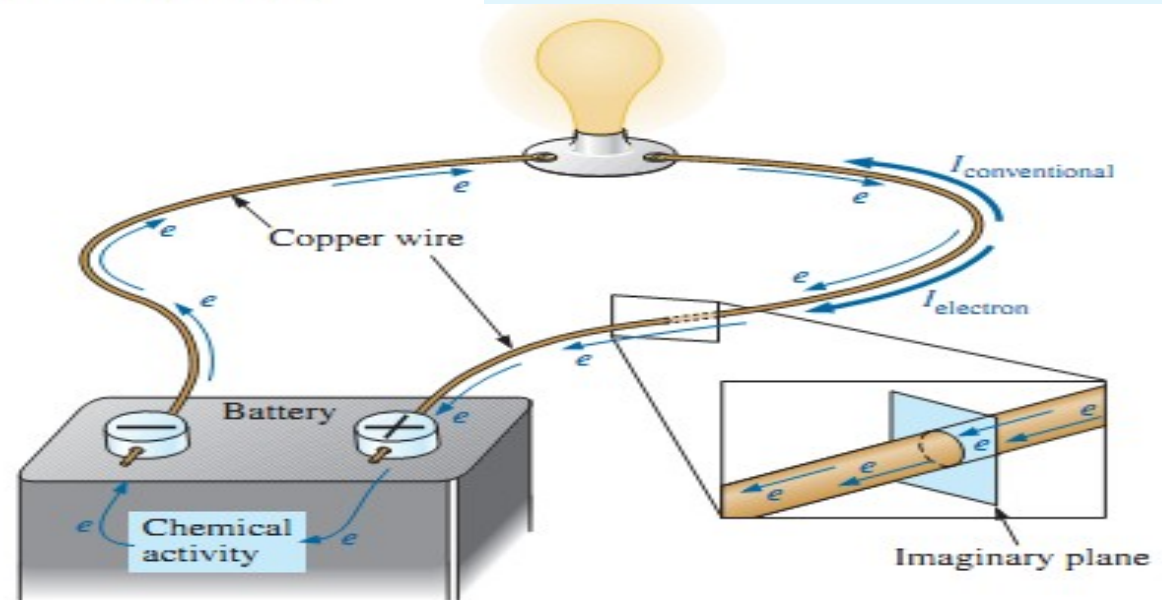

FIG. 2.9
if $6.242 \times (10^{18})$ electrons (1 coulomb) pass through the imaginary plane in Fig. 2.9 in 1 second, the flow of charge, or current, is said to be 1 ampere (A).